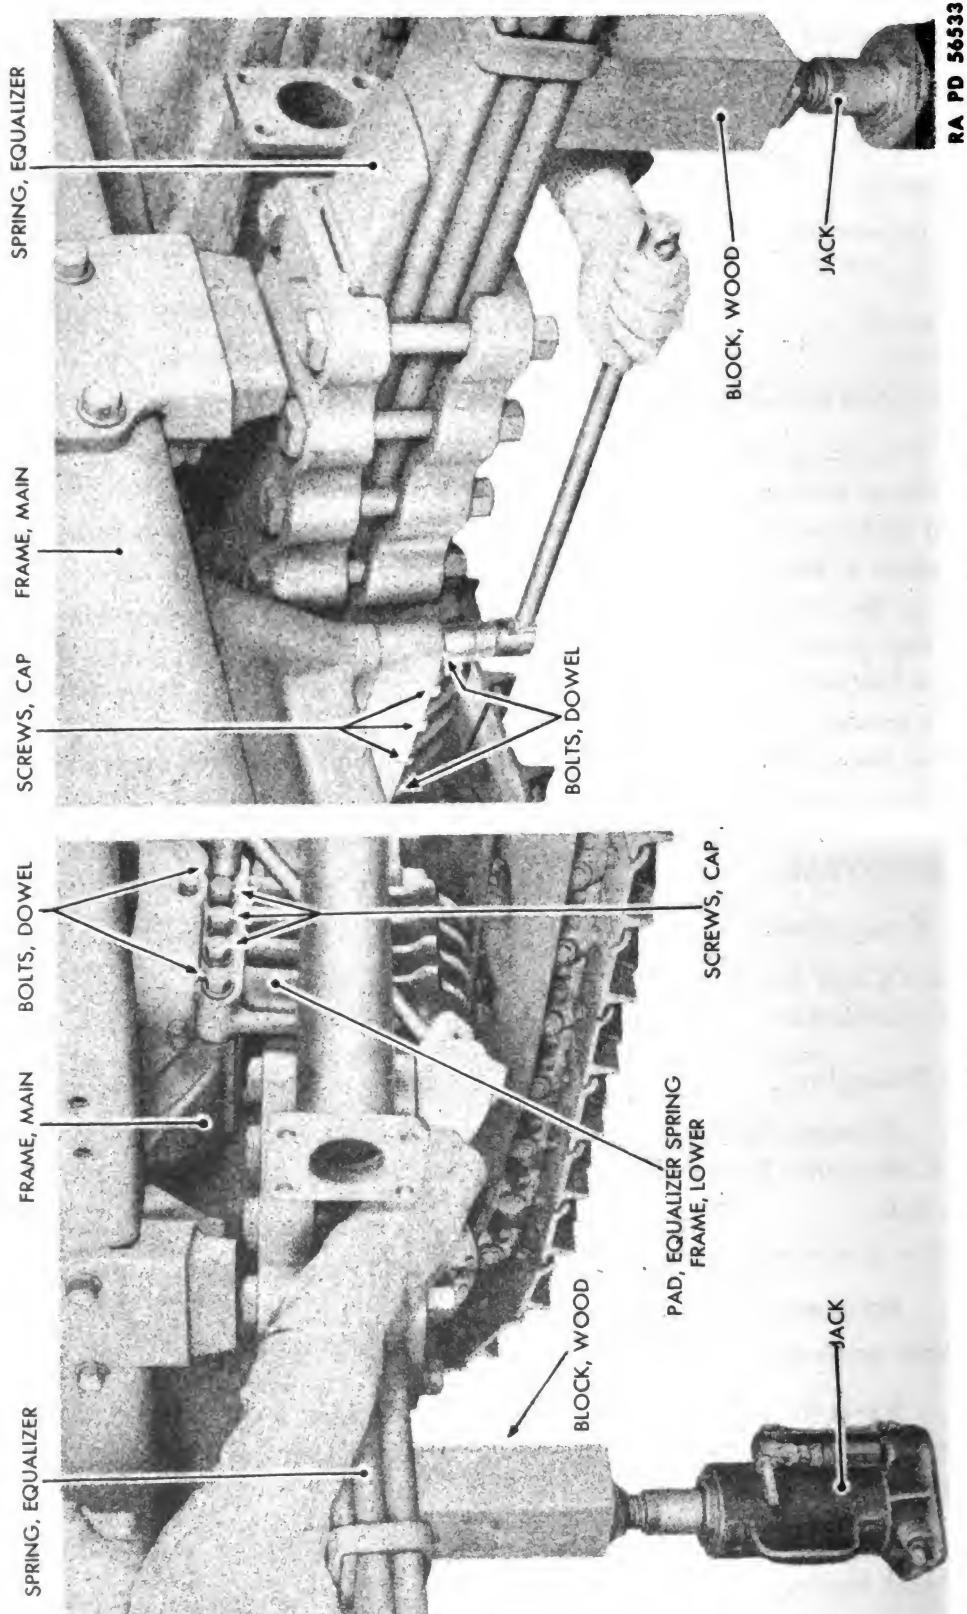

Figure 133 – Lower Equalizer Spring Frame Pad Removal
(3) **REMOVE LOWER EQUALIZER SPRING FRAME PAD (fig. 133).**